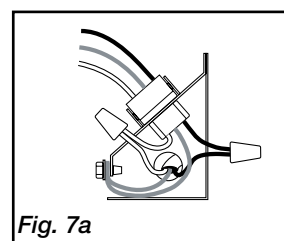
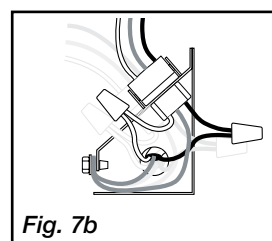

Fig. 7a
Fig. 7b
- Using proper wire connectors, wire the fan as shown in Fig. 7a. For wiring of light proceed to Fig. 7b.